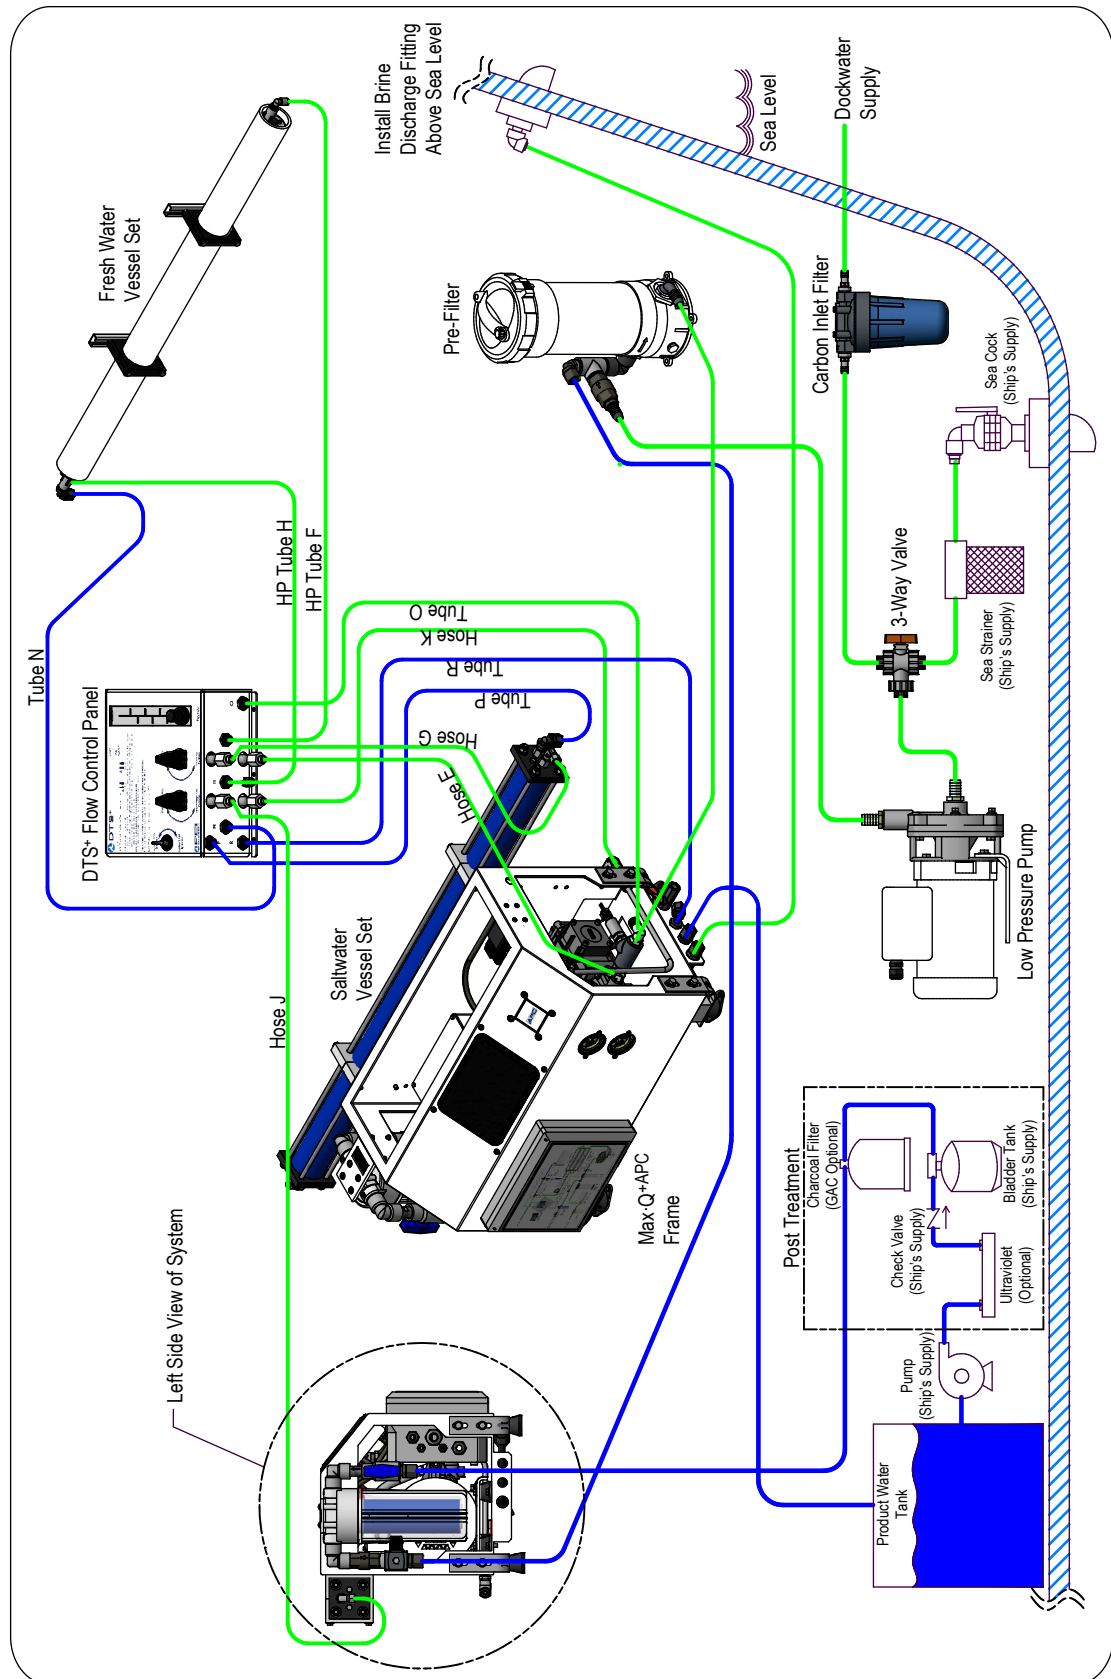

Figure 19: Max-Q+APC Frame 700 GPD with DTS+
- "Figure 19: Max•Q+APC Frame 700 GPD with DTS+" on page 41